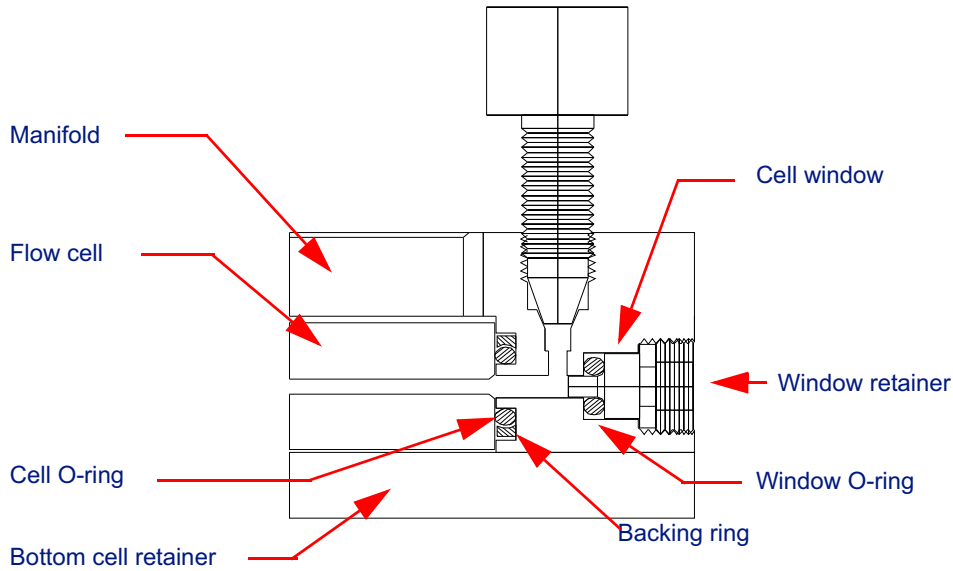

Figure 5-8: Window mount detail
1. Carefully replace the windows with their O-rings, washers and retainers so that the windows are not chipped or over-tightened. (See Figure 5-8.)